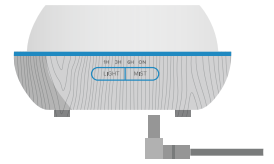

Fig. 2
- 2 Connect AC adaptor power cord into the DC input jack found on the bottom of the water tank. It is suggested to route the cable along the recessed portion on the bottom of the water tank. (Fig. 2)